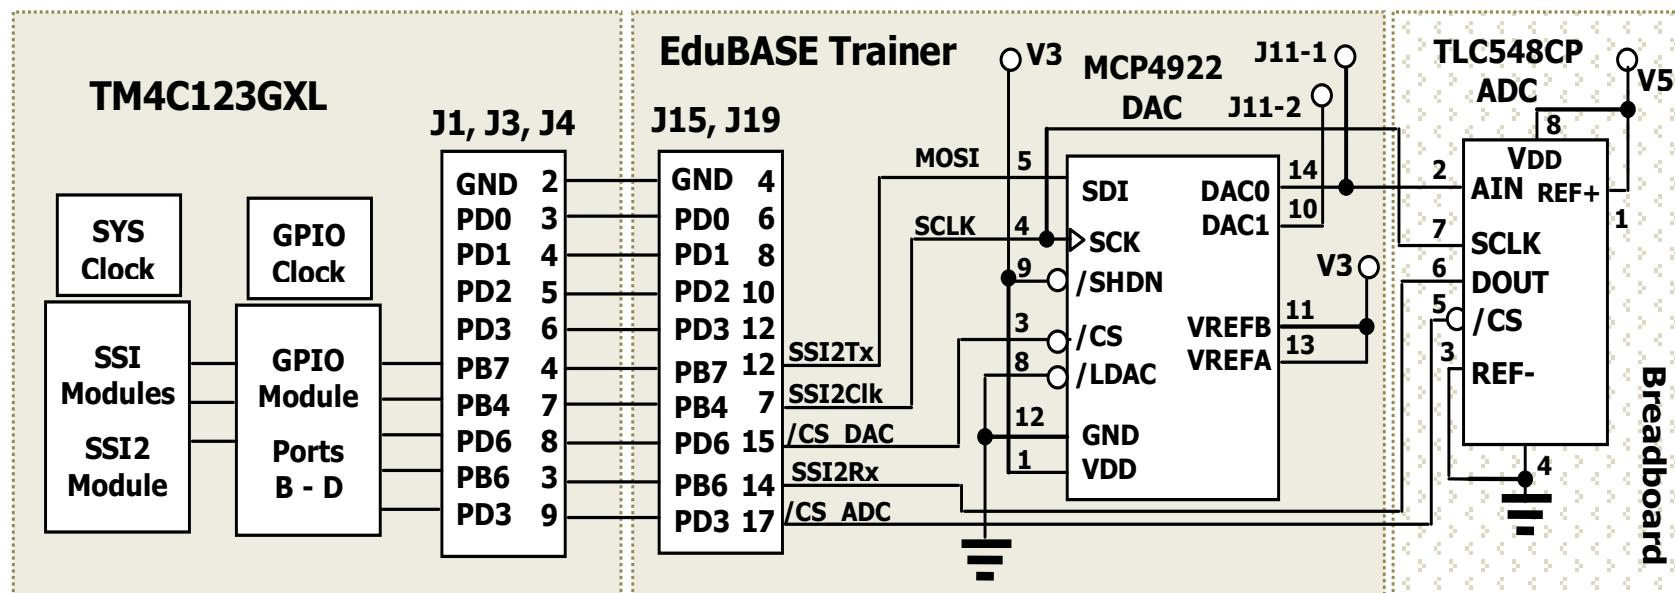

Figure 8.34 Hardware configuration of the DAC-MCP4922 and SSI2 module.
- The **DAC-MCP4922** is directly connected to the **SSI2** module without using any serial shift register. Because the DAC-MCP4922 provides a serial data input. A functional block diagram of this interface circuit is shown in Figure 8.34.
- It can be found from Figure 8.34 that two **SSI2** control signals, **SSI2Tx** and **SSI2Clk**, are connected to the **DAC-MCP4922** to control the DAC conversions and serial data transmission.
- In the EduBASE ARM® Trainer, the **/LDAC** is connected to **ground** and this is equivalent to setting the **/LDAC** pin to **Low**. This connection enables both outputs to be updated as a rising edge appeared on the **/CS** signal (Figure 8.34).
- The hardware configuration of this project is shown in Figure 8.34.
- The **DAC conversion results** can be obtained serially from the first conversion channel **VOUTA** or **DACo** as each rising edge of the **SSI2Clk** coming (Figure 8.34).